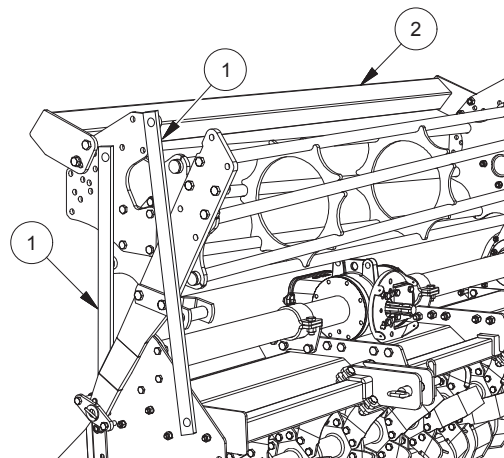

FIG. 7
- Loosen the screws fixing the clamps (1, “Fig. 7”).